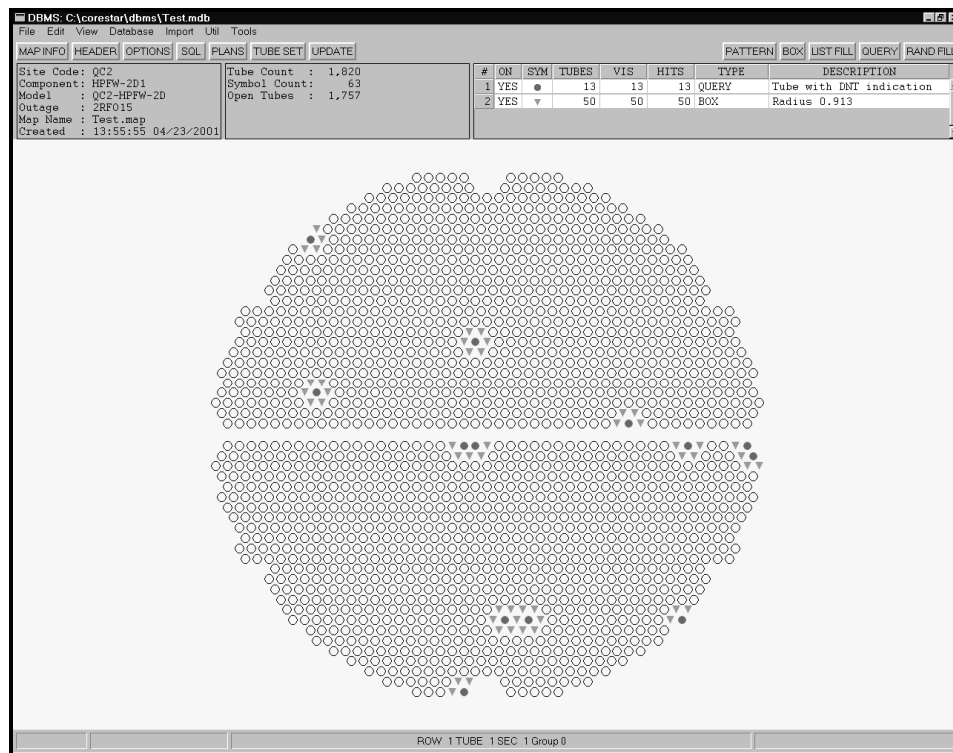

Figure 5-7. Map With Query and Box Fill
25. In order to change the symbol and color of the box fill, repeat steps 16 through 19 for the blue B in the legend. For this tutorial green down triangles were selected. The map should look similar to the one in Figure 5-7.